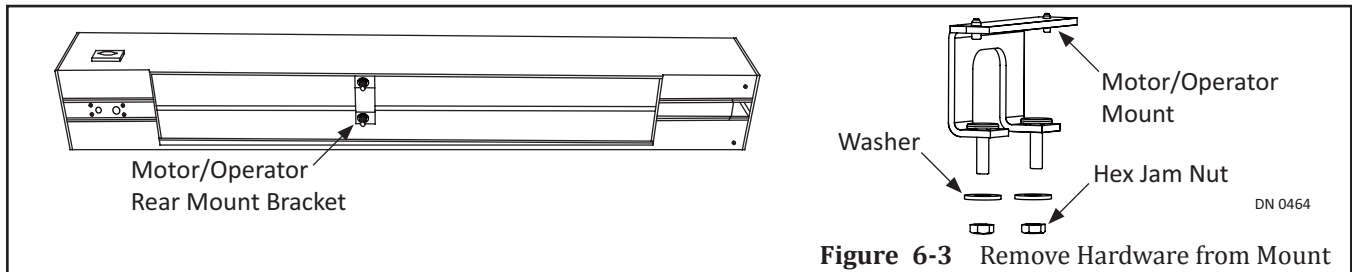

Figure 6-3 Remove Hardware from Mount
1. Go to (inside) top of Header. Please see Figure 6-3.
3. With a 9/16 inch Deep Well Socket and Ratchet, remove (2) 3/8-16 Hex Jam Nuts and (2) Washers from (2) studs that extend downward from the Rear Mount Bracket.
4. Hold the Front end of Motor/Operator at an upward angle to slide Front Mount onto (2) Pivot Base Tabs located inside of Header.